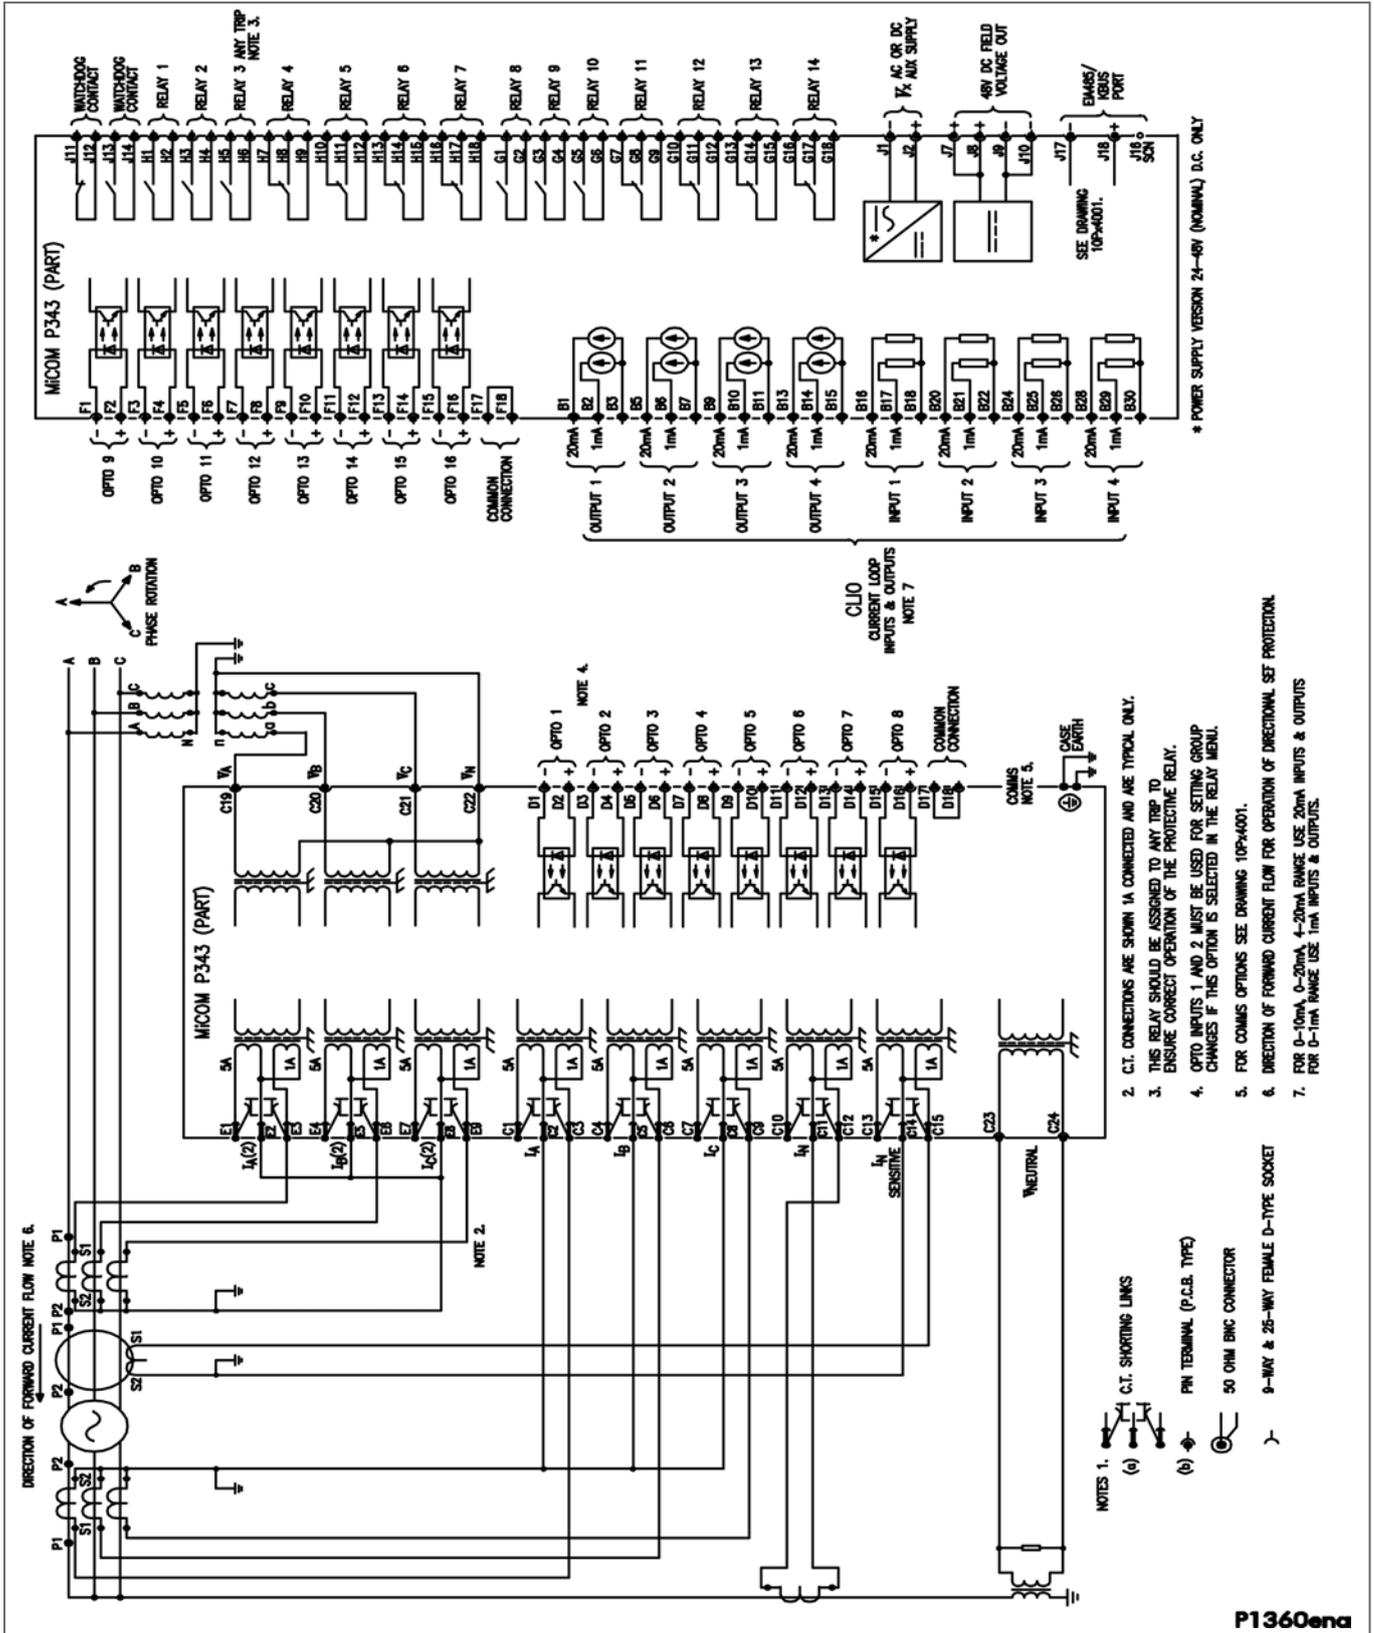

Figure 59 - P343 (60TE) with biased differential (16 I/P & 14 O/P & CLIO)
- Figure 59 - P343 (60TE) with biased differential (16 I/P & 14 O/P & CLIO)